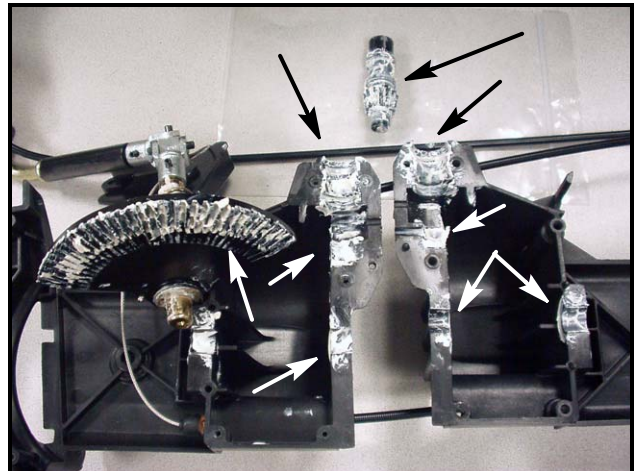

FIGURE 13
21. Apply a liberal amount of white lithium grease to both the new LH housing and the new RH housing at the areas shown. See Figure 13.
22. Apply a liberal amount of white lithium grease to the input shaft and to the 89 tooth bevel gear. See Figure 13.